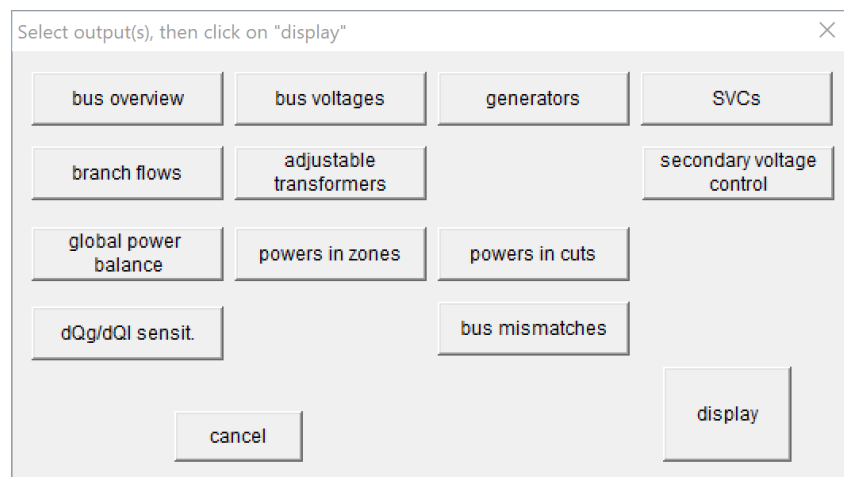

Figure 1.2: Output selection
- To view the results, select from the menu bar "Output" \rightarrow "show listing". The window of Figure 1.2 allows to view the bus voltages, current flows, etc. (check *ARTERE_user_guide*).